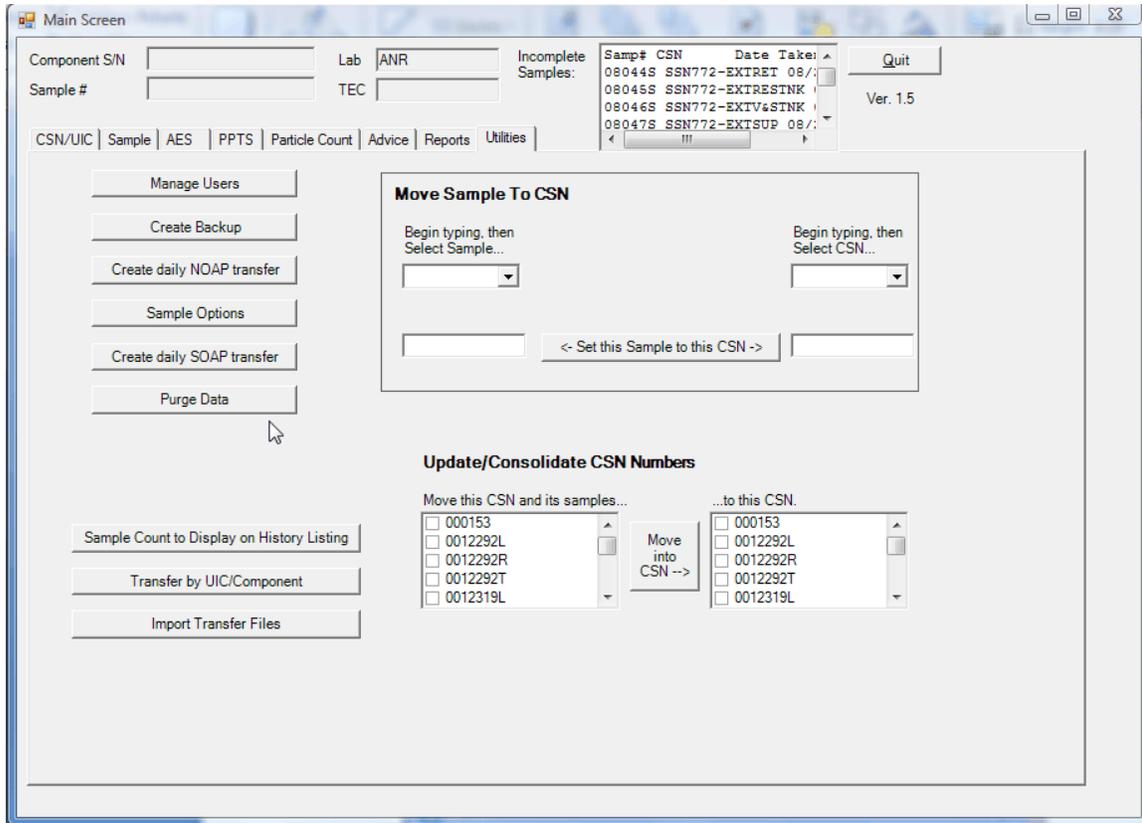

Figure 86. Utilities
- c. Purge data. From the main sample screen press the Utilities tab and the following screen will appear (Figure 86).